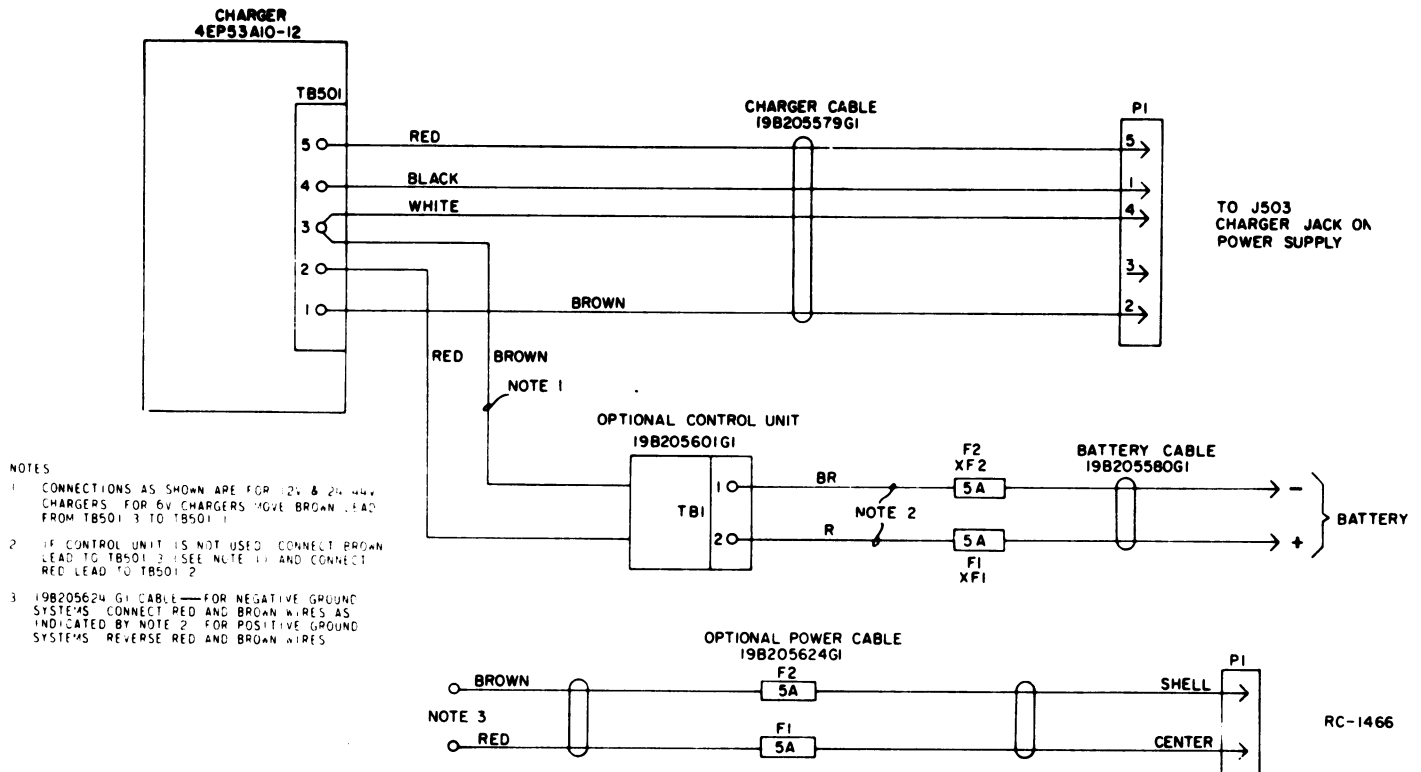

Figure 2 - Equipment Connection Diagram
5. Make input and output connections to TB501 on the charger as indicated by Figure 2 and the markings on the charger case.
4. Make connections as indicated by Figure 2.